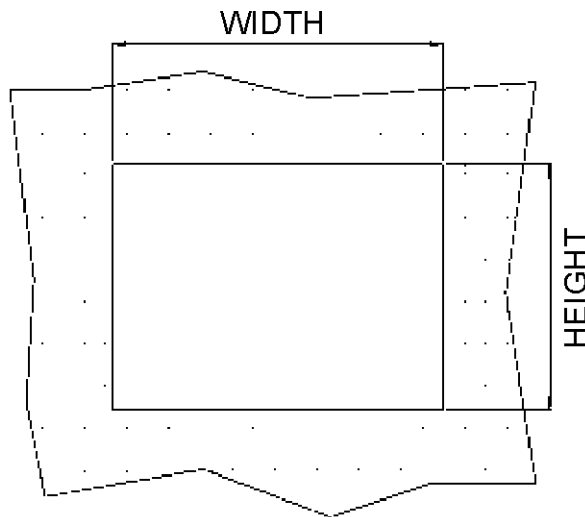

Figure 5-8: Panel Opening
Step 2: Cut out a section of the panel that corresponds to the rear panel dimensions of the monitor. Take care that the panel section that is cut out is smaller than the overall size of the metal frame that surrounds the monitor but just large enough for the rear panel of the monitor to fit through (**Figure 5-8**).